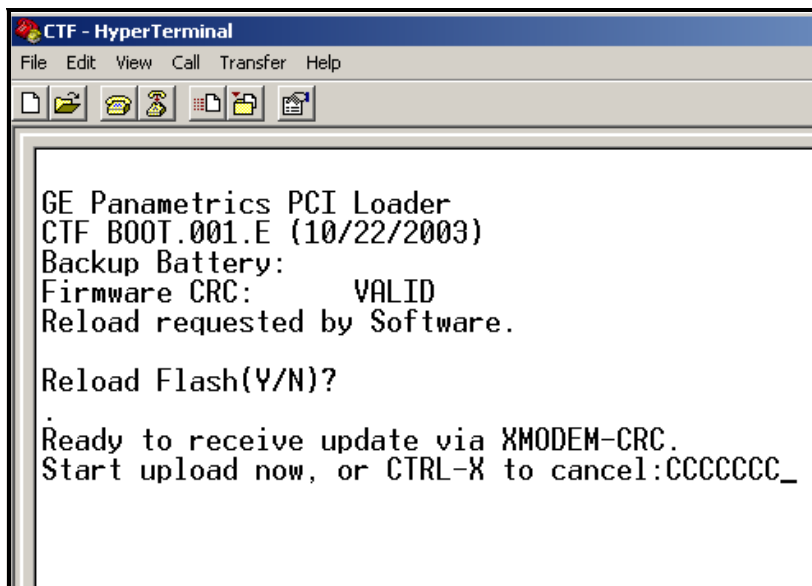

Figure 19: "Ready To Receive Update" Window
4. If you chose to reload flash, a message appears as in Figure 19 below. On the PC in the Hyperterminal Window, select the "Send File" entry under "Transfer."